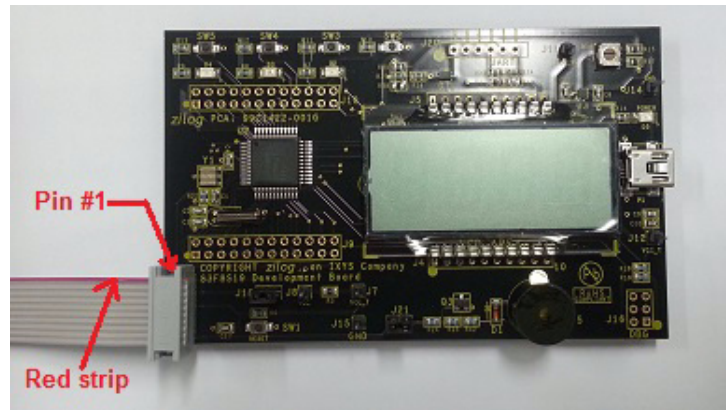

Figure 4. Debug Connector J6
3. Connect the other end of the ribbon cable to Jumper J6 on the Development Board. Ensure that Pin 1 on the ribbon cable is aligned with Pin 1 on the target connector, as indicated in Figure 4.